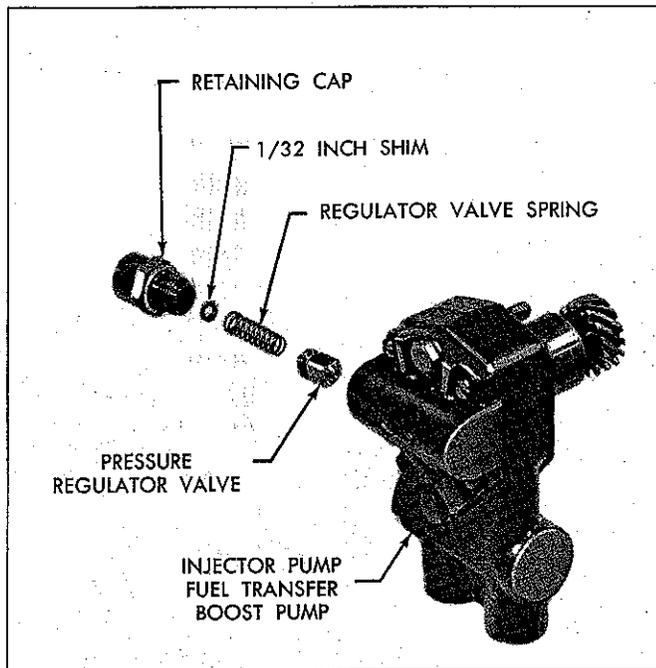

Figure 31
(4) Should the fuel pressure regulator valve and housing cover plate show no signs of sticking and valve operates freely, install a 1/32-inch shim behind the valve spring at the cap position, Figure 31. Shims are sometimes required to bring the engine operating fuel pressure back up to normal, due to the regulator valve spring taking a set in tension.
(5) Reassemble the valve assembly back into position in the housing cover plate.